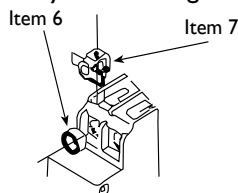

Figure 4
4. Note: For circuit breakers with recessed front use the supplied spacer (item 6) with the mounting nut (item 7) (figure 4).